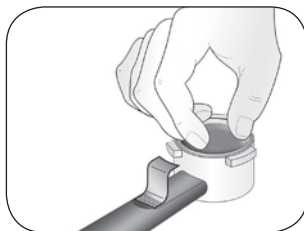

Fig. 15
- 2 Push the pod towards the bottom of the filter with your fingers (Fig. 15).